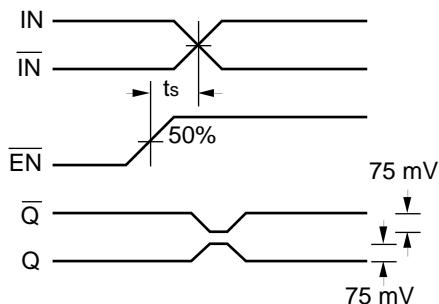

Figure 1. Set-up Time
- The set-up time is the minimum time that \bar{EN} must be asserted prior to the next transition of IN/ \bar{IN} to prevent an output response greater than $\pm 75mV$ to that IN/ \bar{IN} transition (see Figure 1).